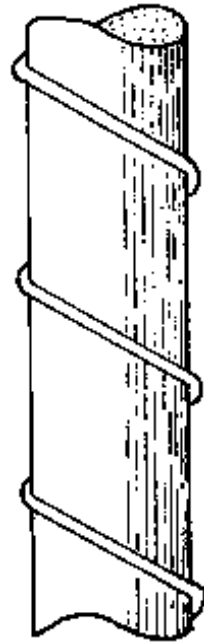
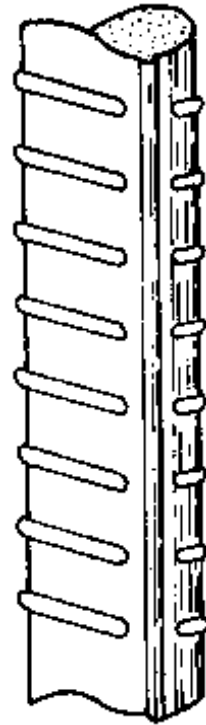

Fig. 2
Fig. 3
- RIBBED BARS: The round bars with a ribbed surface are called ribbed bars and are available in diameters ranging from 6 mm to 40 mm, if the bar is cross-ribbed (Fig. 2, next page). For obliquely ribbed bars, the diameters range from 6 mm to 28 mm (Fig. 3, next page). This last type of reinforcement is also called "tensar bar" and it is the strongest reinforcement steel available.